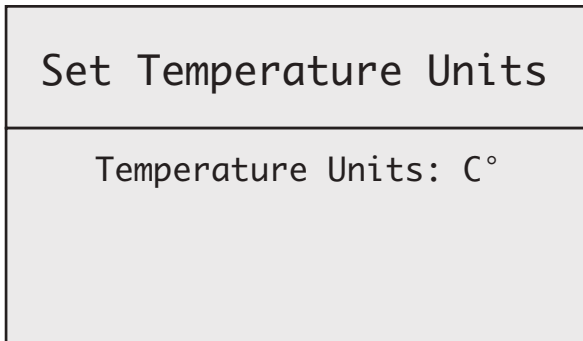

Figure 25
2. Using the **SCROLL DOWN** key, move down to option 3: “**SET TEMPERATURE UNITS**”. Press **ENTER** again to move into the “**SET TEMPERATURE UNITS**” screen. **SEE FIGURE 25.**